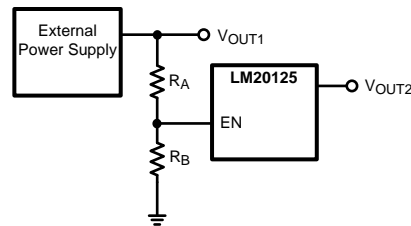

Figure 29. Sequencing LM20125 with Precision Enable
The precision enable (EN) and power good (PGOOD) pins of the LM20125 can be used to address many sequencing requirements. The turn-on of the LM20125 can be controlled with the precision enable pin by using two external resistors as shown in Figure 29.